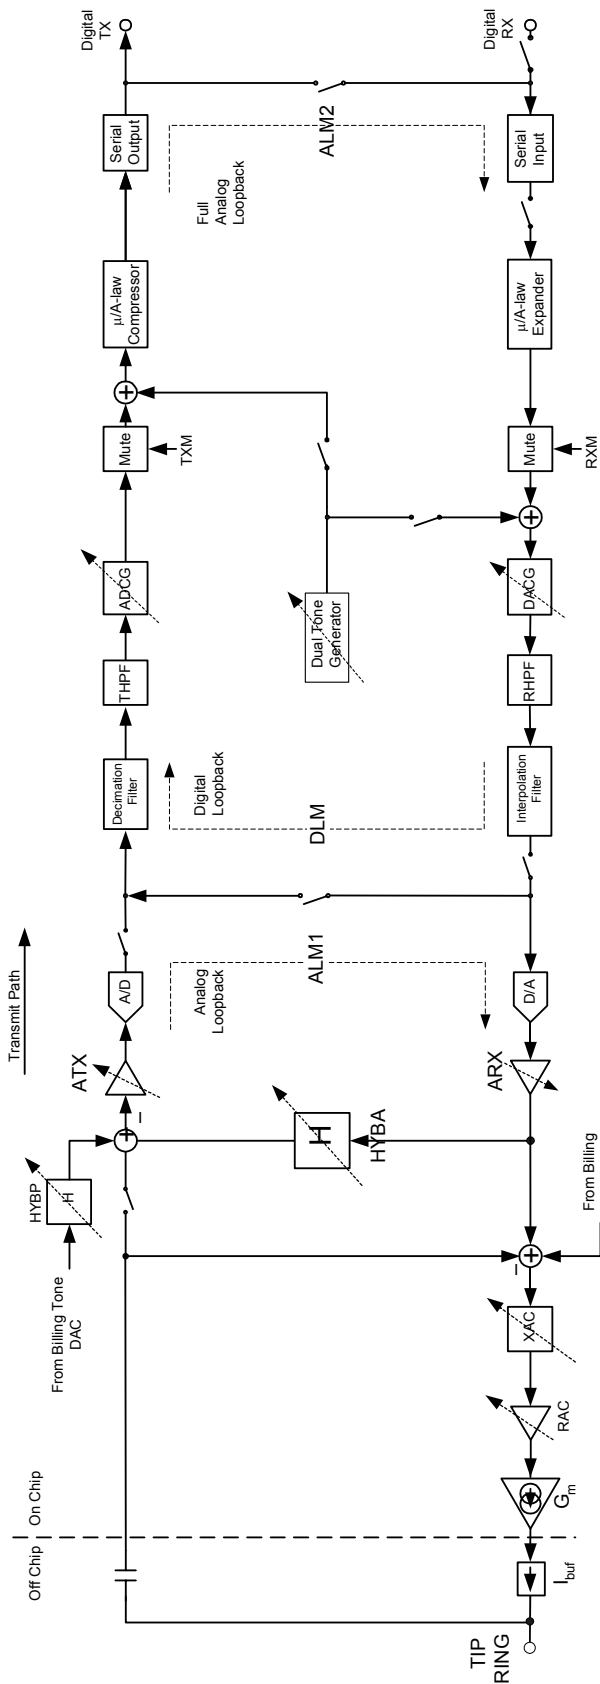

Figure 22. AC Signal Path Block Diagram
Unlike traditional SLICs, the codec function is integrated into the ProSLIC. The 16-bit codec offers programmable gain/attenuation blocks and several loop-back modes. The signal path block diagram is shown in Figure 22.
The block diagram for the voice-band signal processing paths are shown in Figure 22. Both the receive and the transmit paths employ the optimal combination of analog and digital signal processing to provide the maximum performance while, at the same time, offering sufficient flexibility to allow users to optimize for their particular application of the ProSLIC. All programmable signal-processing blocks are symbolically indicated in Figure 22 by a dashed arrow across them. The two-wire (TIP/RING) voice-band interface to the ProSLIC is implemented using a small number of external components. The receive path interface consists of a unity-gain current buffer, I_{BUF} , while the transmit path interface is simply an ac coupling capacitor. Signal paths, although implemented differentially, are shown as single-ended for simplicity.
The ProSLIC provides programmable transhybrid balance with gain block H. (See Figure 22.) In the ideal case where the synthesized SLIC impedance matches exactly the subscriber loop impedance, the transhybrid balance should be set to subtract a -6 dB level from the transmit path signal. The transhybrid balance gain can be adjusted from -2.77 dB to $+4.08$ dB around the ideal setting of -6 dB by programming the HYBA[2:0] bits of the Hybrid Control register (direct Register 11). Note that adjusting any of the analog or digital gain blocks will not require any modification of the transhybrid balance gain block, as the transhybrid gain is subtracted from the transmit path signal prior to any gain adjustment stages. The transhybrid balance can also be disabled, if desired, using the appropriate register setting.
- The full analog loopback (ALM2) tests almost all the circuitry of both the transmit and receive paths. The compressed 8-bit word transmit data stream is fed back serially to the input of the receive path expander. (See Figure 22.) The signal path starts with the analog signal at the input of the transmit path and ends with an analog signal at the output of
- An additional analog loopback (ALM1) takes the digital stream at the output of the A/D converter and feeds it back to the D/A converter. (See Figure 22.) The signal path starts with the analog signal at the input of the transmit path and ends with an analog signal at the output of the receive path. This loopback option allows the testing of the analog signal processing circuitry of the Si3215 completely independently of any activity in the DSP.
- The full digital loopback tests almost all the circuitry of both the transmit and receive paths. The analog signal at the output of the receive path is fed back to the input of the transmit path by way of the hybrid filter path. (See Figure 22.) The signal path starts with 8-bit PCM data input to the receive path and ends with 8-bit PCM data at the output of the transmit path. The user can bypass the companding process and interface directly to the 16-bit data.
Real and complex two-wire impedances are realized by internal feedback of a programmable amplifier (RAC) a switched capacitor network (XAC) and a transconductance amplifier (G_m). (See Figure 22.) RAC creates the real portion and XAC creates the imaginary portion of G_m 's input. G_m then creates a current that models the desired impedance value to the subscriber loop. The differential ac current is fed to the subscriber loop via the ITIPP and IRINGP pins through an off-chip current buffer (I_{BUF}), which is implemented using transistor Q1 and Q2 (see Figure on page 20). G_m is referenced to an off-chip resistor (R_{15}).